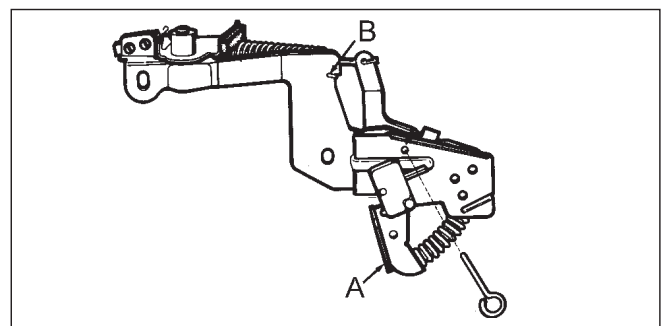

Fig. 4
- Compress spring by moving lever toward spark plug and when hole in lever (A) aligns with hole in bracket (B), secure lever in this position with alignment tool 670298 (Fig 4). Remove flywheel per normal service procedure as outlined under IGNITION section of this manual.